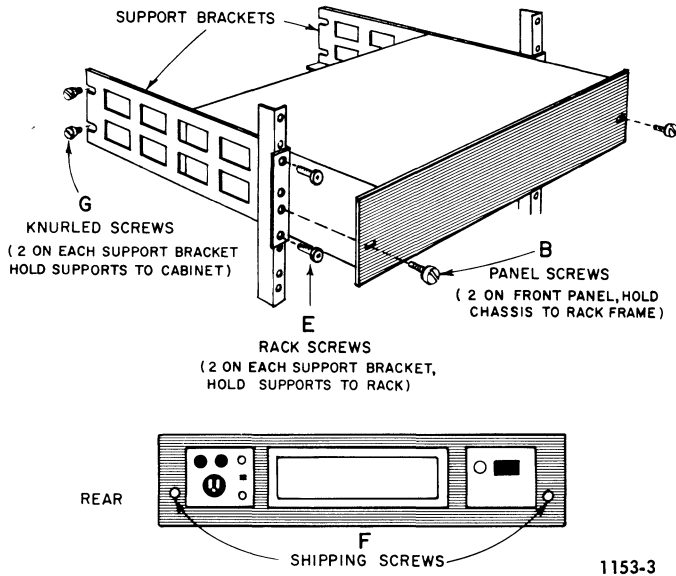

Figure 2-5. Rack mounting the Type 1394-A.
2.3.4 RACK MOUNTING (Figure 2-5).